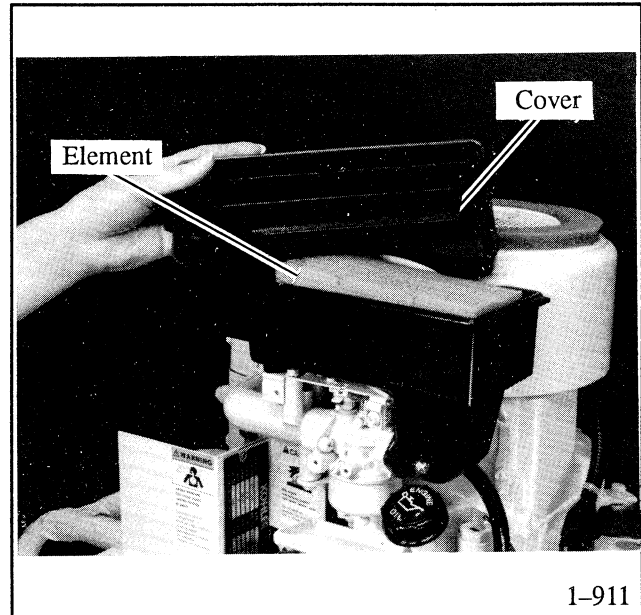

Figure 3-5. Air Cleaner Service
1. Unsnap air cleaner cover. See Figure 3-5.